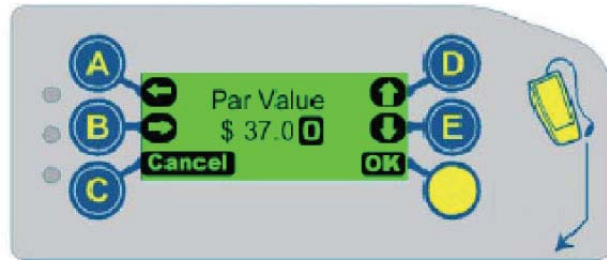

Fig.16
- To adjust the par value, Press the D button (highlighted “Adj”) to adjust the overall cassette value (see figure 16). Press the D or E buttons (highlighted up and down arrows) to increment and decrement the specific value digit. Press the A or B buttons (highlighted left and right arrows) to shift to the next value digit. Once the value is reached, press the yellow mode button (highlighted “OK”) to return to the initial settings screen. Press the yellow mode button (highlighted “Next”) to move to the next and final step.